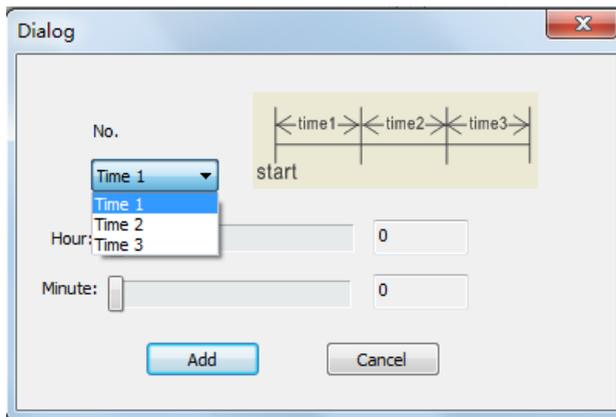

Figure 14 Programmable timed delays
3. Yellow Keys: Keys 33-36, are virtual keys. Key 33 and 34 are for I/O control, which is not supported by the programmable Control Panel. Key 36 is a power up (boot up) action, and if events are added to this action, when the programmable Control Panel is power on, it will execute the events in this action. Key 35 is a delay button, and there are three programmable timed delays that can be set (see Figure 14).